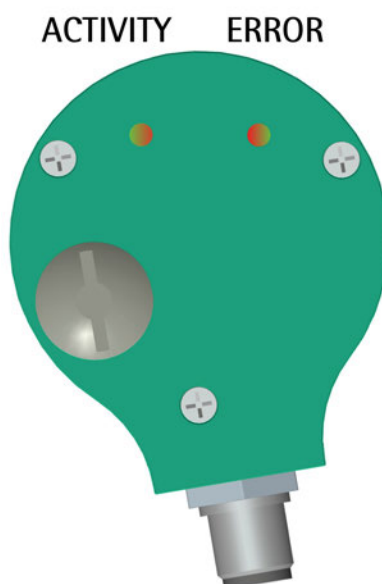

Figure 1: Diagnostic LEDs
4.4 Diagnostic LEDs (Figure 1)